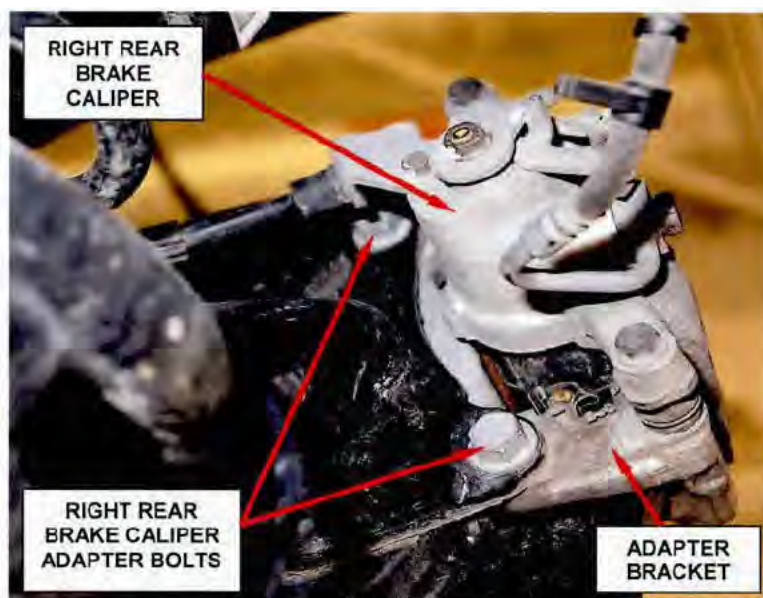

Figure 4 – Right Rear Brake Caliper Adapter Bolts
7. Remove and save the two bolts securing the disc brake caliper and adapter bracket to the axle (Figure 4).
20. Install the two bolts securing the disc brake caliper adapter bracket to the axle (Figure 4). Tighten the mounting bolts to 74 ft. lbs. (100 N·m).